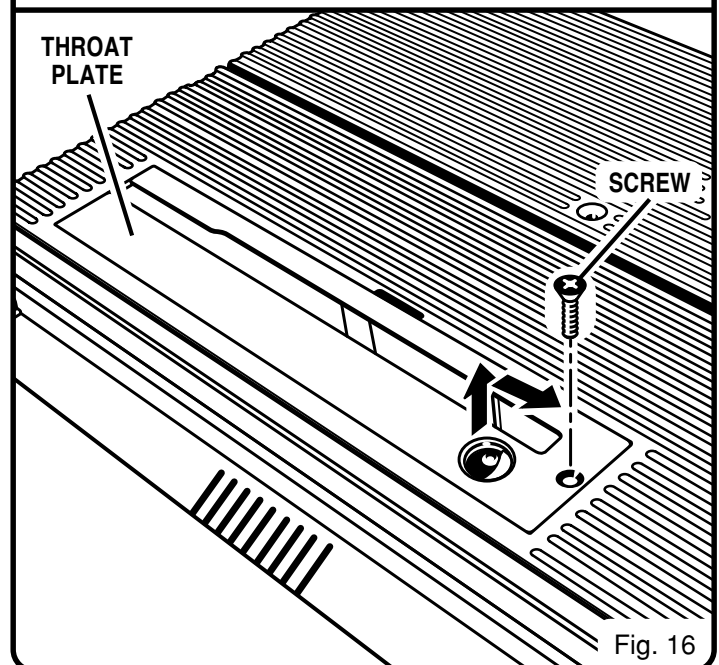

Fig. 16
See Figure 16.
- To check the saw blade, first remove the screw holding the throat plate in place. Remove the throat plate. See *Figures 16 and 17*.